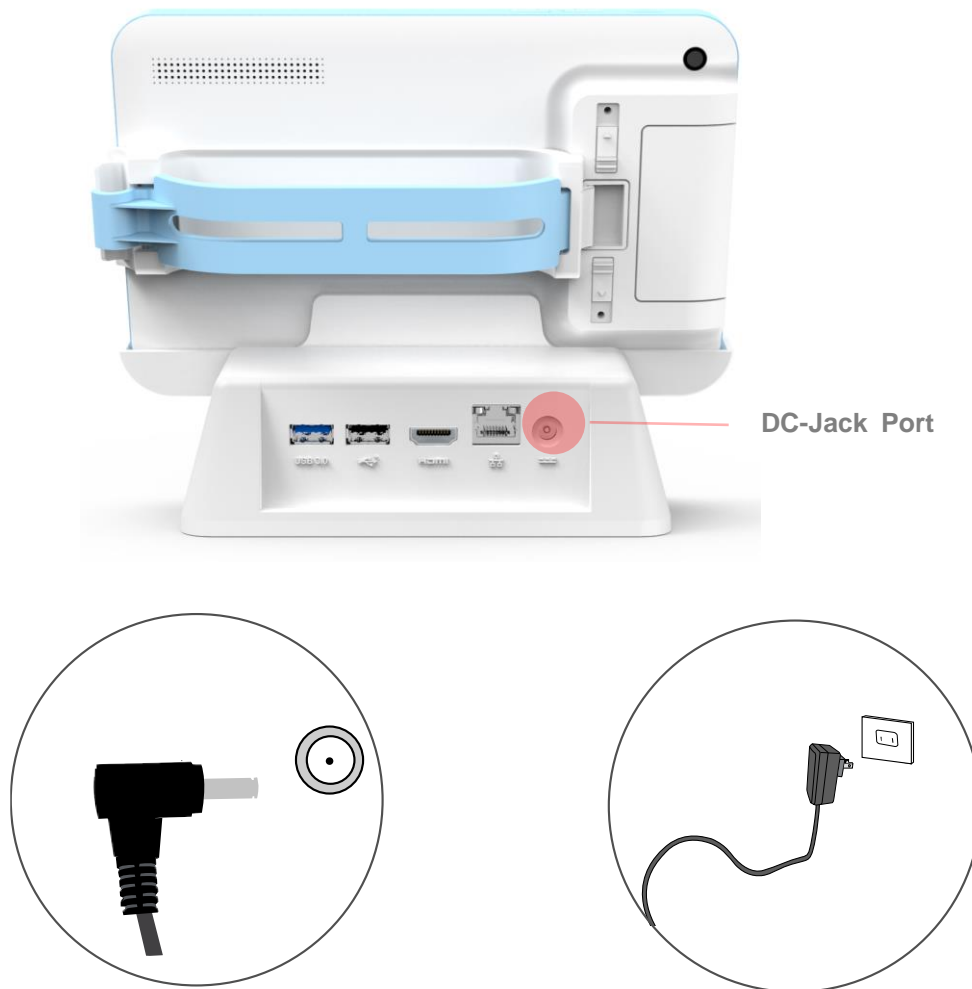

Figure 2.13 Connecting the AC Adapter Power Supplier to the Docking Station
1. Insert the mPAD2-7-CHT4-I into the docking station as previous section 2.3.3.(See Figure 2.13).